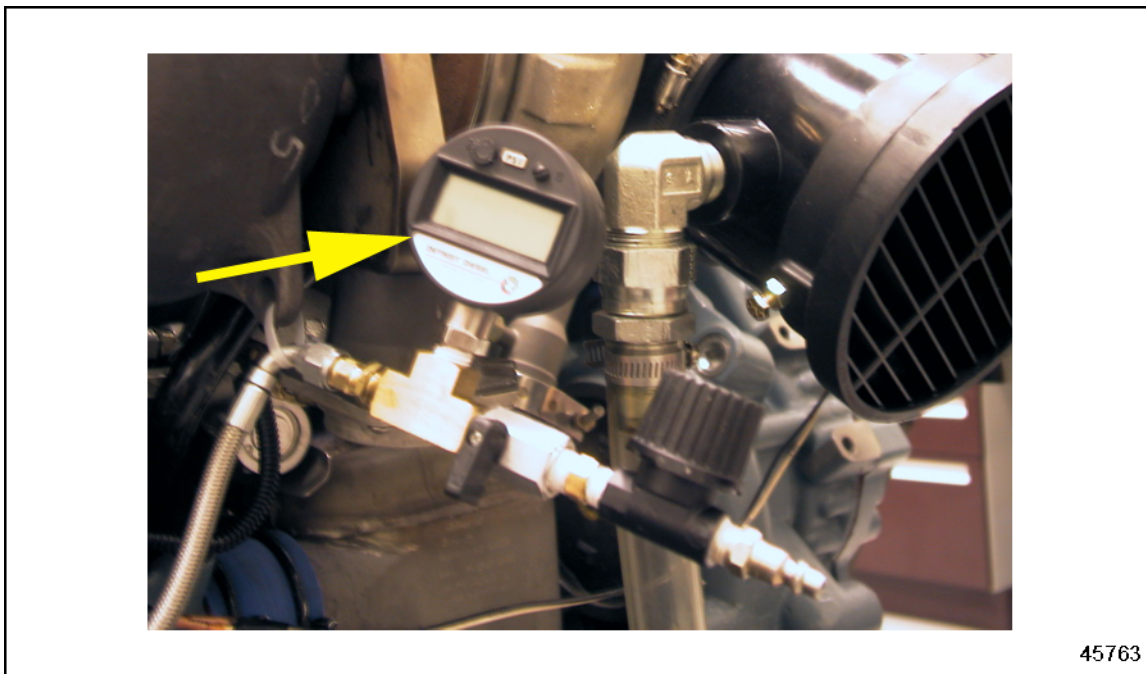

Figure 1 Gage Setup
2. Install gauge at the outlet of the VNT air line. See Figure 1.